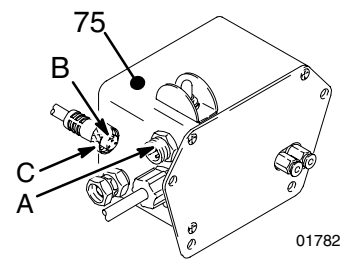
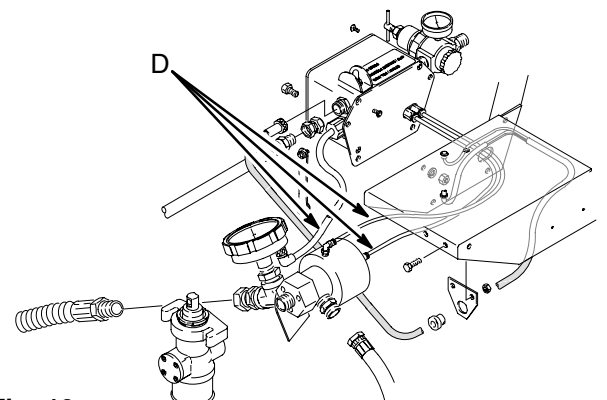

Fig. 11
Fig. 12
3. Unscrew the collar (C) and disconnect the power supply cord from the control (75). See Fig. 11.
7. Disconnect the cables (D) from the pressure drain valve. See Fig. 12.
6. Connect all cables (D) to the pressure drain valve. See Fig. 12. Plug in the power cord so the notch (B) in the collar (C) and the tab (A) in the socket align. Screw on the collar. See Fig. 11.
- 3 Cutaway view shows how pin (228) goes through connecting rod